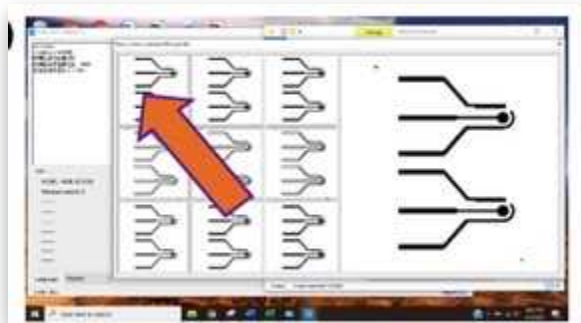

Figure 2D
i. Next, choose the first option (top, left corner shown in *figure 2D*). In step 4, click "ok."